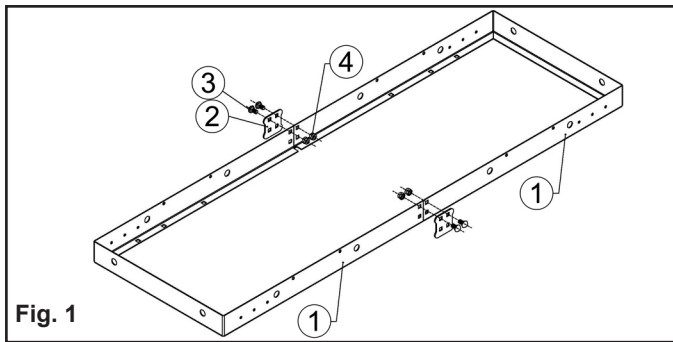

Fig. 1
- Figure 1:** Bring both halves of the frame (part# 1) together. Align the holes on the side of each half of the frame with the holes in the connecting plates (part# 2).
- Figure 1:** Thread four (4) M10x20 carriage bolts (part# 3) through the top two (2) holes on each of the connecting plates, and through the holes in the frame halves. Hold them in place with M10 lock nuts (part# 4). **Note: Do not fully tighten these bolts until step 8.**